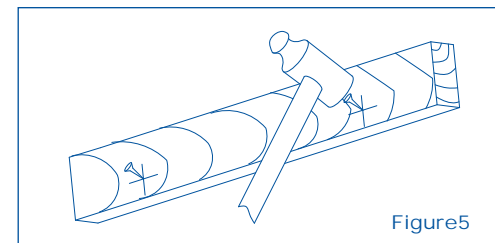

Figure 5
b) Remove housing temporarily and pound nails partially into joists at all four marked locations (Figure 5).